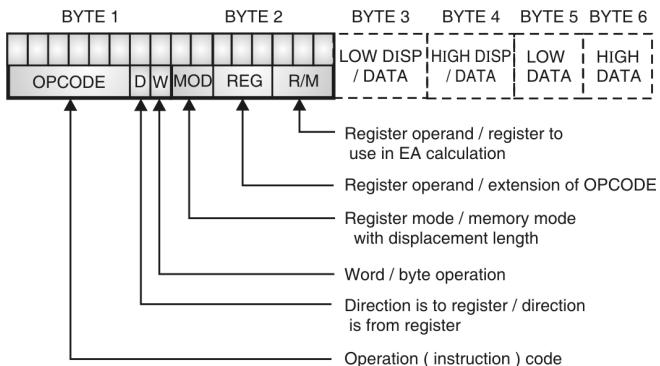

Fig. 10.1.2 : Instruction format
- To remember these formats, I will give you only a single format, from that we get these different formats refer Fig. 10.1.2.
- As shown in Fig. 10.1.2, the first six bits of a multibits instruction generally contains an opcoding that identifies the basic instruction type i.e. ADD, XOR etc.
- Refer Fig. 10.1.2, if you observe in some case, in 2nd bits we have MOD, OPCODING and R/M, for some of the cases we have MOD, REG and R/M. First we will concentrate on OPCODING bits in 2nd bits of instruction format. This field is 3 bit wide. Under that we have three single bit fields, S, V and Z.